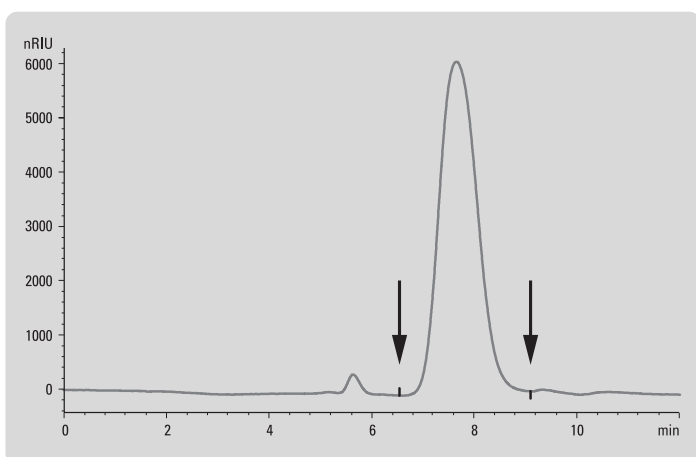

Fig. 14:
- Only the polymer peak is integrated (refer to figure 14)